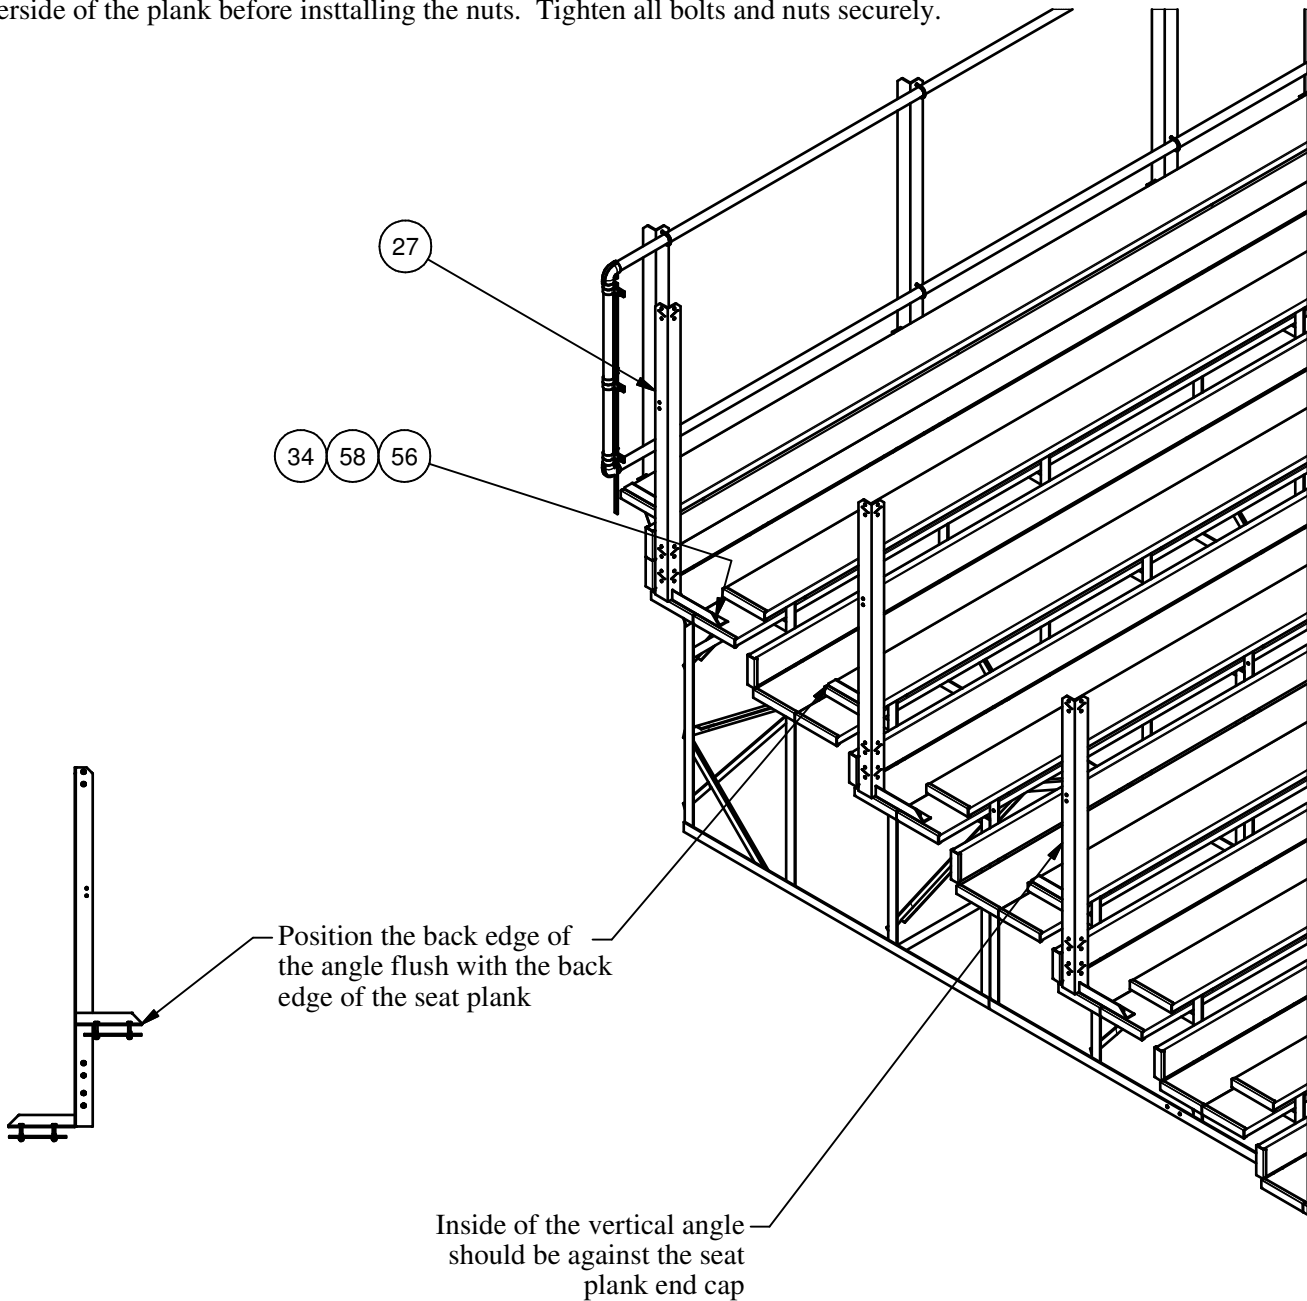

Figure 12
18. Install the RH side rail weldments onto the end of the bleacher. Locate one vertical on the top row, 6th row, and on the 4th row. Position the verticals as shown in Figure 12. Using the holes in the angles, drill the four 3/8" holes through the seat plank (2 holes) and the foot planks (2 holes). Attach the verticals using the 3/8" x 2.5" hex bolts and 3/8" whizlock nuts. Make sure the clamp plate is placed on the underside of the plank before installing the nuts. Tighten all bolts and nuts securely.